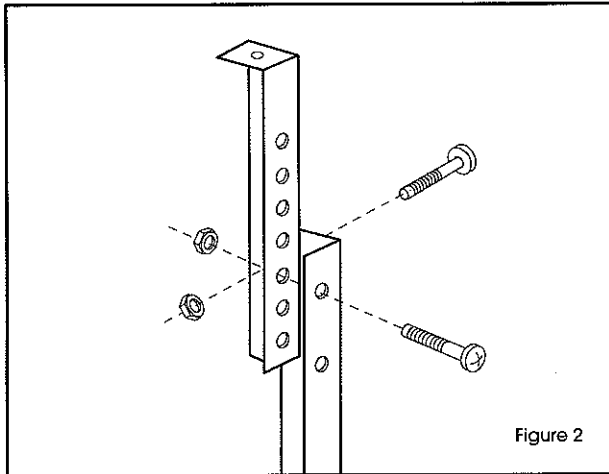

Figure 2
3. Attach adjustable feet to inside of legs at desired height. Only bolt the top 2 holes on each leg using 2 large bolts and 2 large nuts. (See Figure 2)